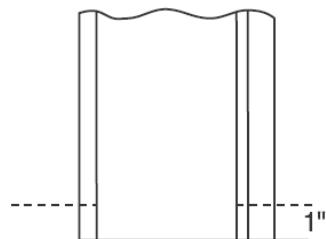

Figure 5
- 7b. For a smoother and neater look, panels can also be finished with a hemming tool. Cut through the ribs on both male and female sides, about 1" up from the panel's end, then along the inside of the ribs - see Figures 5 and 6.